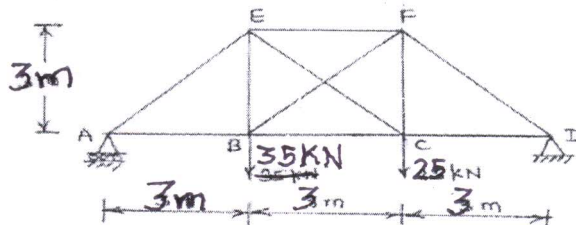

Figure 6
6. Find the forces in the members of the truss supported and loaded as shown in Figure 6 Assume that the elastic modulus and area of cross-section for all the members are the same.